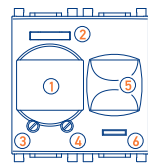

Fig. 4
1. Figure 4 shows a front view of the device 1 - lens detection, 2 - external light sensor, 3 - adjusts the light level at which the device is activated, 4 - sets working time, 5 - switch, 6 - LED indication automatic mode.